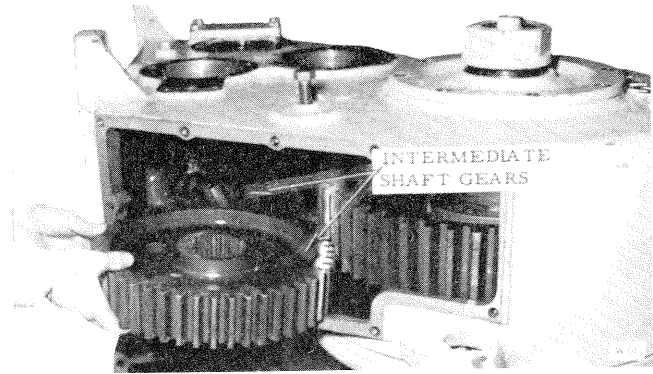

Figure 17
12. Unscrew the capscrews securing the intermediate shaft bearing retainer. Loosen the retainer by tapping it with a light hammer; then, lift it off. Pull the intermediate shaft, employing the method described in Step 9. Lift the two intermediate shaft gears out of the side frame. Fig. 17.